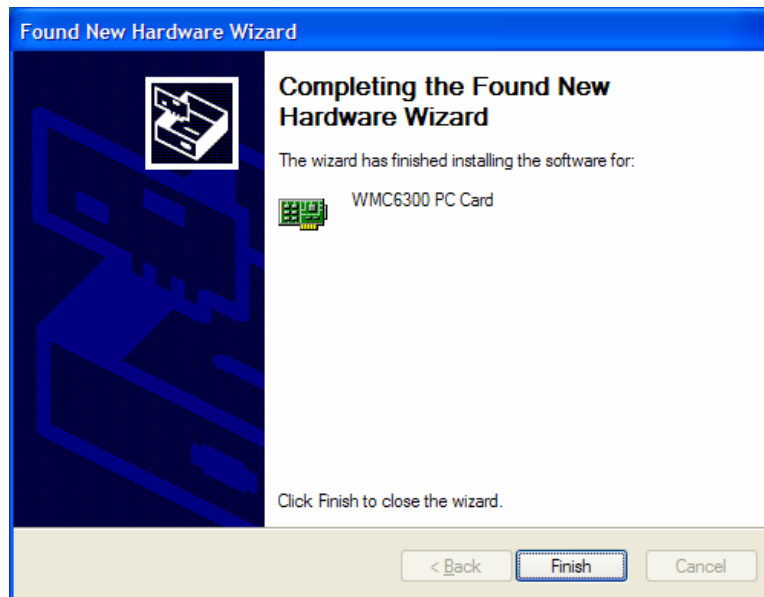

Figure 38. Found New Hardware Wizard Complete
10. The *Found New Hardware Wizard Complete* dialog box will be displayed as shown in Figure 38. Click on the **Finish** button.